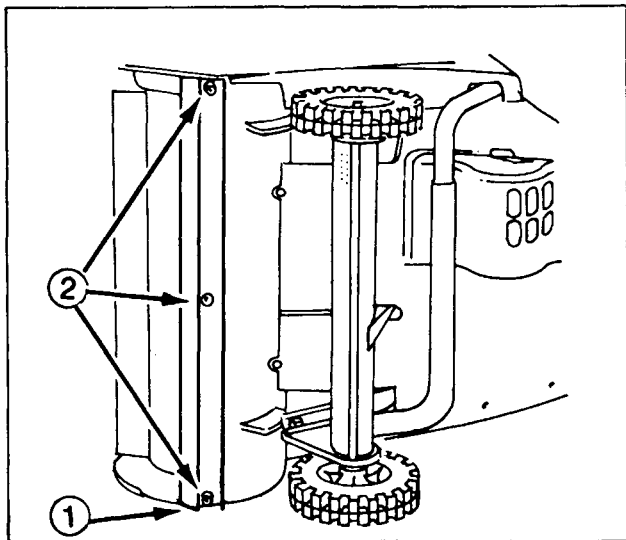

Fig. 7
2. Tip snowthrower on its side. Remove locknuts and bolts holding scraper in place (Fig. 7). Remove scraper from housing.